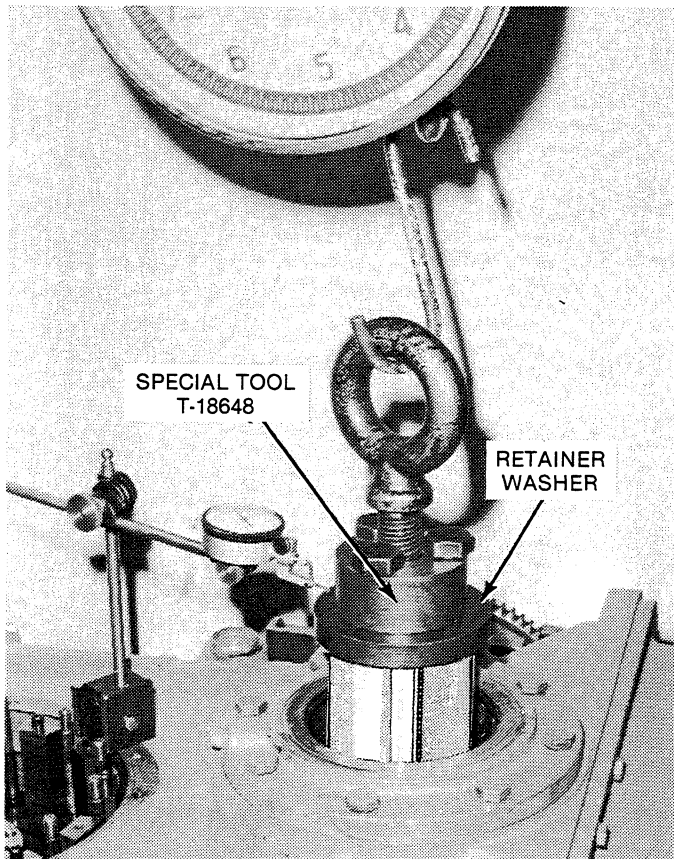

Figure 9-4. Checking Endplay of Output Shaft.
b. Install special tool T-18648 over the steel tubing and bolt the tool to the end of the output shaft (see Figure 9-4).
- e. Install dial indicator onto the housing with the finger resting on the retainer washer on rear of output shaft (see Figure 9-4).
- h. Install an eyebolt into the special tool. Attach a sling to the eyebolts and use a hoist and fish scales to apply 1500 to 1700 lb. upward thrust on the shaft. See Figure 9-4.